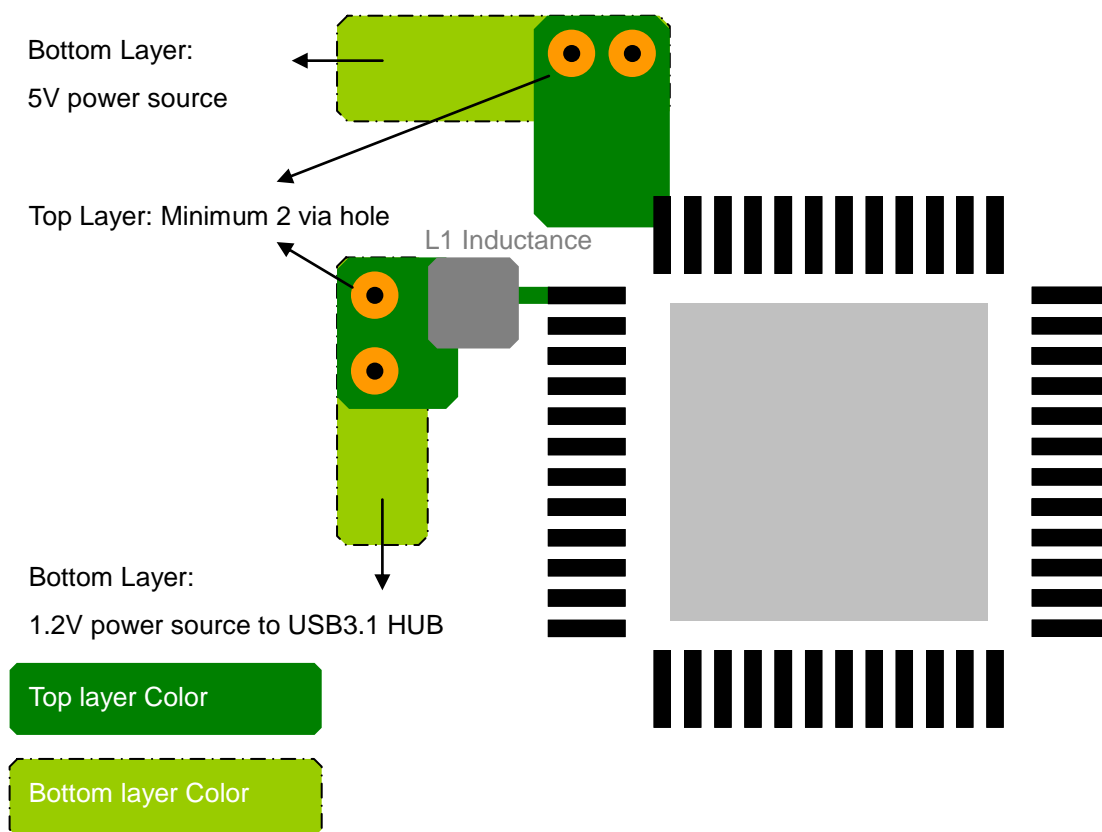

Figure 2.22
3. Please reduce at least 2 vias when the 5V or 12V power trace is needed to go through different layers. Please refer to the **Fig. 2.22** for more detailed information.